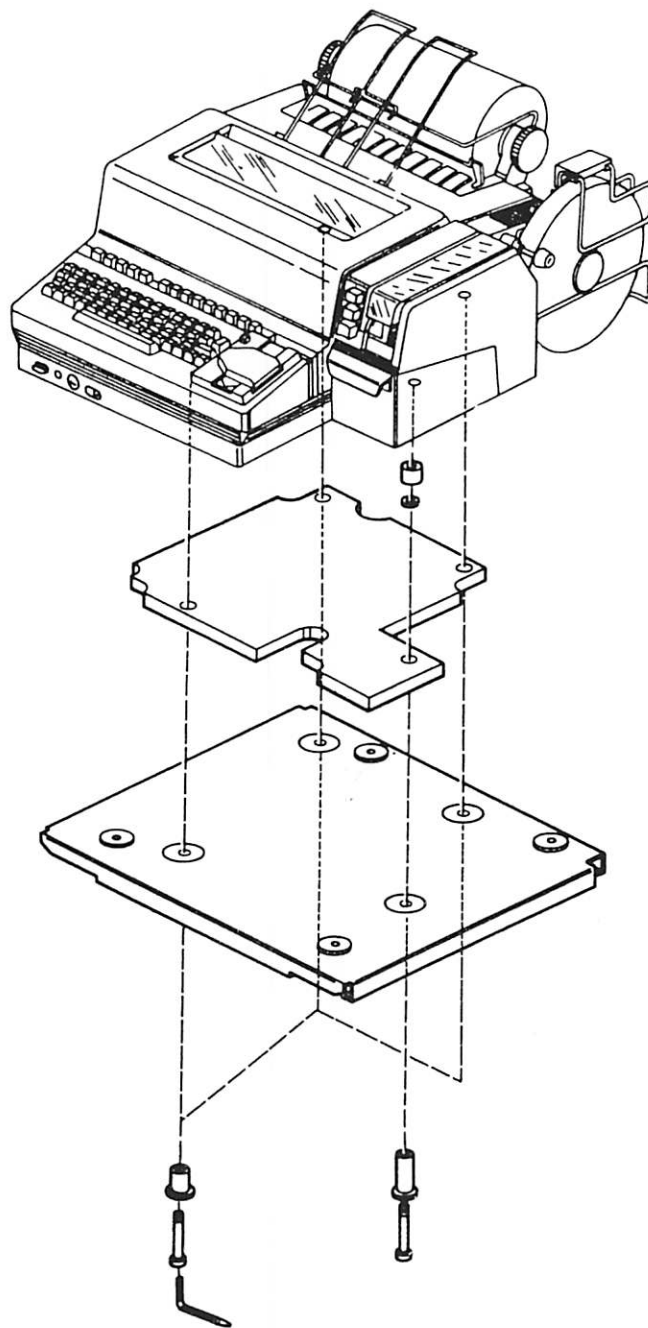

Figure 1: Mounting details
1. Place AROFLEX on rubber cushion on top of metal baseplate, and secure by means of four bolt-assemblies (see figure 1). Make sure that all rubber washers and spacers fit snugly into the holes provided on the baseplate and the rubber cushion.